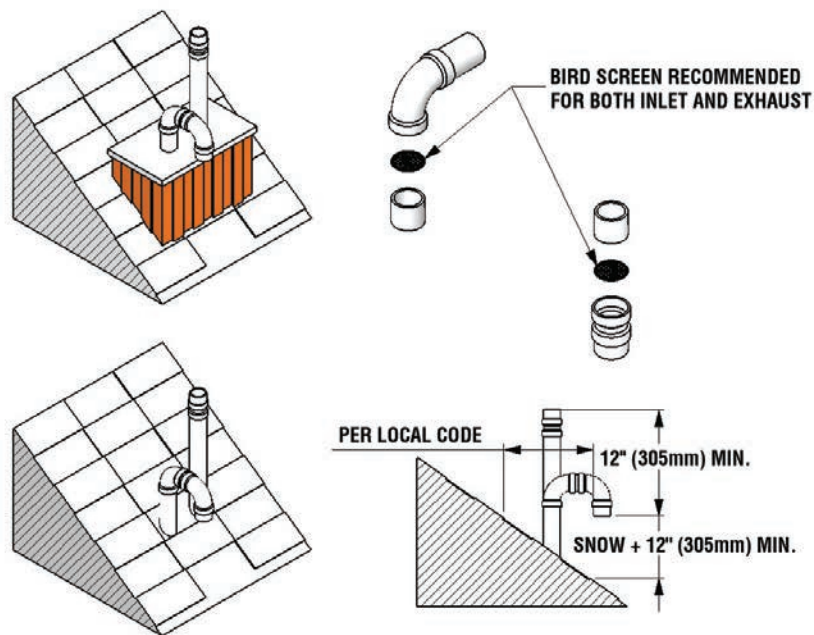

Figure 5: Rooftop vent terminal configurations
- The intake air pipe is not typically drained, so it must be terminated with a down-turned elbow (see Figure 5). The intake pipe does not need to penetrate the roof at the same elevation as the exhaust; lower down the roof is OK.
It is extremely important to maintain at least the minimum separation of exhaust vent termination from boiler intake air as illustrated in figures 5, 8 and 13. Failure to do so can result in a dangerous situation where exhaust gasses are re-ingested with combustion air. Damage to the boiler can result from a failure to maintain these separations. Improper installation will void the warranty.